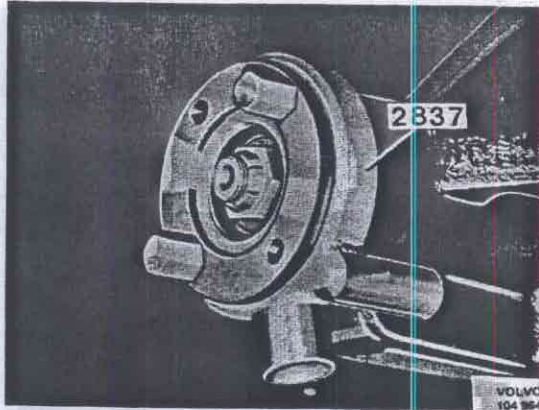

Fig. 46-41. Fitting a puller
7. Turn the carrier. Fit counterhold 2837 on the flange, Fig. 46-41. Remove the flange nut.